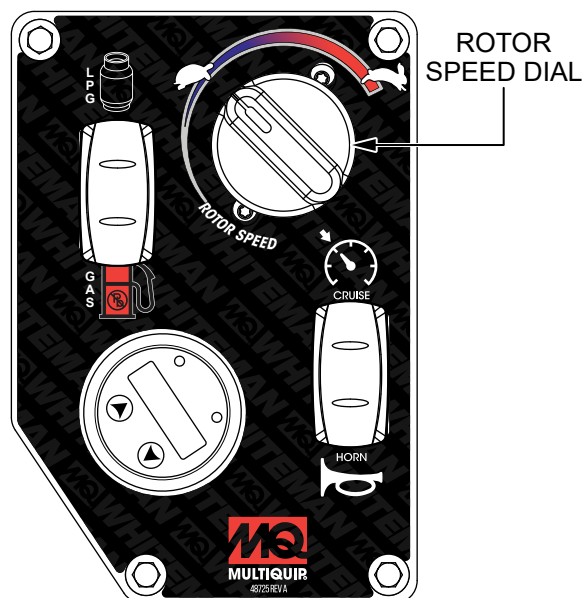

Figure 28. Rotor Speed Dial
The **rotor speed dial** (Figure 28) scales the rotor speed determined by the foot pedal signal.
4. Use the **rotor speed dial** (Figure 28) to increase or decrease rotor speed while cruise control is engaged.